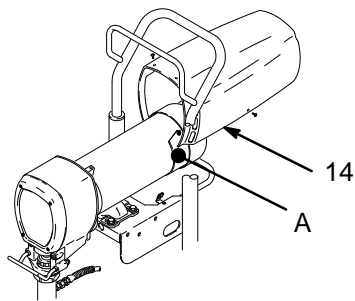

Fig. 8 03799
1. Remove the motor cover (14) and both inspection covers (A). See Fig. 8.